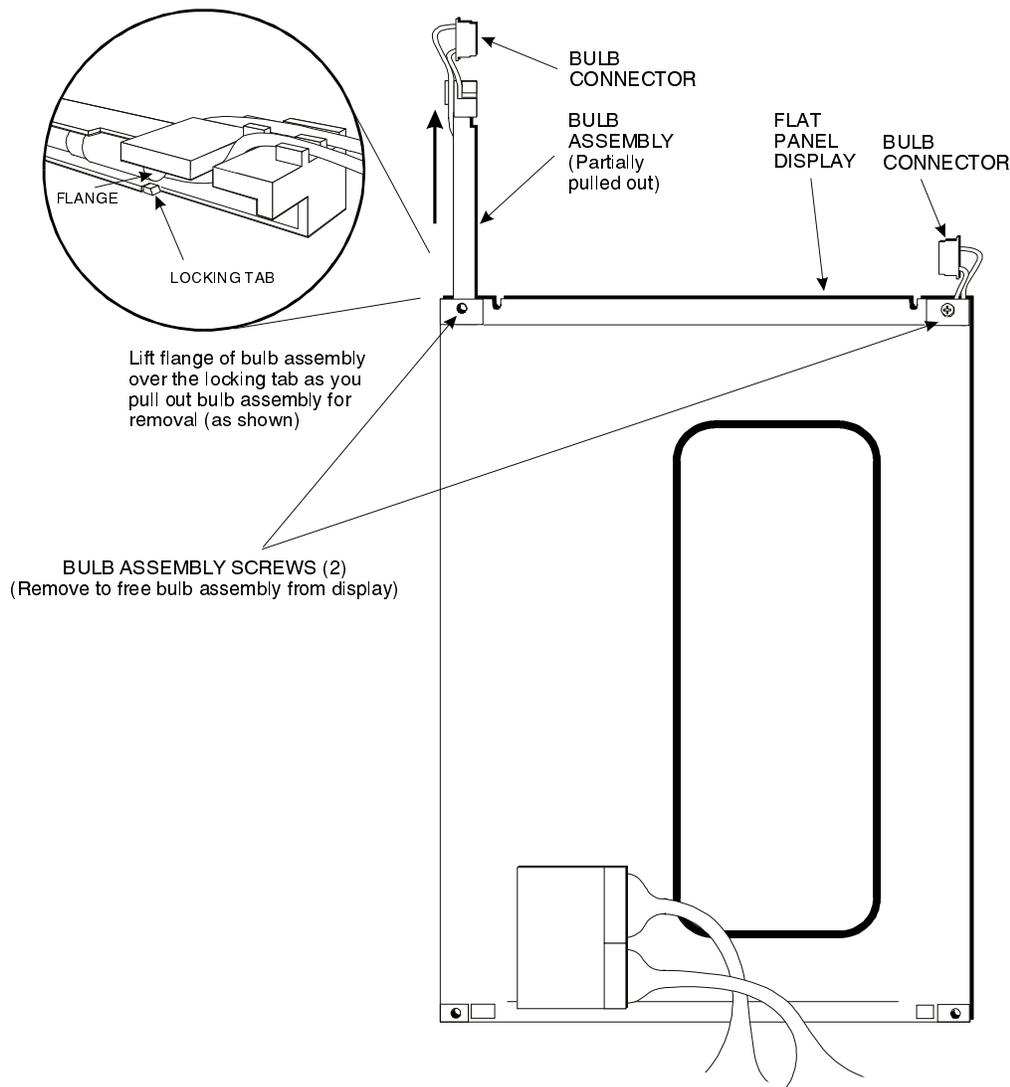

Figure D-2. Model #LQ14X03 - Rear View
3. Remove the two bulb assembly screws that fasten the backlights to the display (refer to Figure D-2).
4. While holding the flat panel display up, lift the flange of the bulb assembly over the locking tab (refer to Figure D-2) as you slide the assembly out. The bulbs are attached to the assembly.